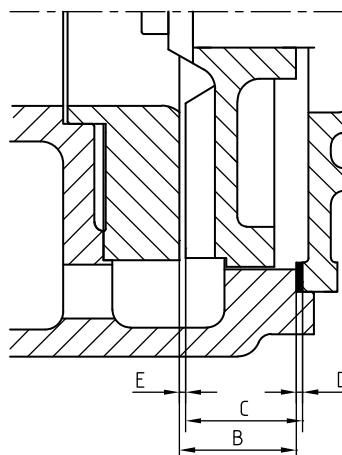

Figure 8: Clearance between impeller and wear plate.
- 3 Measure the distance B between wear plate and pump casing, see figure 8.
- 4 Measure the distance C between impeller and intermediate cover, see figure 8.